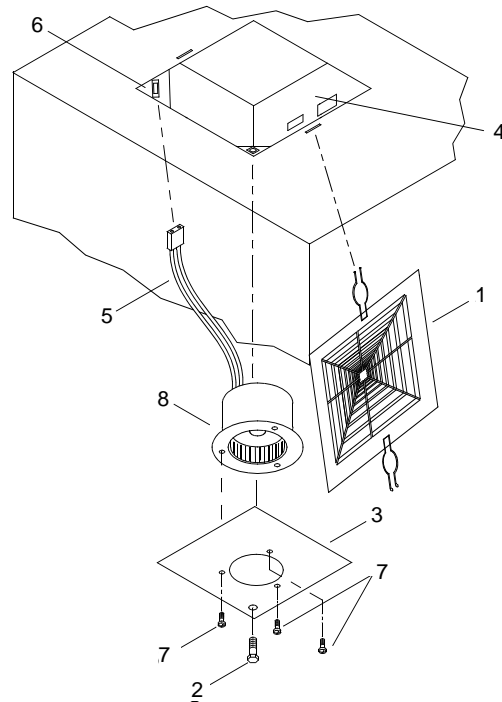

Figure 2. Personnel Shelter Vent Fan
2. Pull down vent fan cover (figure 2, item 1) and remove.
3. Remove hex head machine screw (figure 2, item 2) from vent fan panel (figure 2, item 3).
4. Remove vent fan panel (figure 2, item 3) from vent fan enclosure (figure 2, item 4).
5. Disconnect vent fan wiring harness (figure 2, item 5) from plug (figure 2, item 6).
6. Remove three round head screws (figure 2, item 7) from vent fan panel (figure 2, item 3).
7. Remove vent fan (figure 2, item 8) and discard.
8. Position new vent fan (figure 2, item 8) on vent fan panel (figure 2, item 3).
9. Install three round head screws (figure 2, item 7) and tighten.
10. Connect vent fan wiring harness (figure 2, item 5) to plug (figure 2, item 6).
11. Position vent fan panel (figure 2, item 3) on vent fan enclosure (figure 2, item 4).